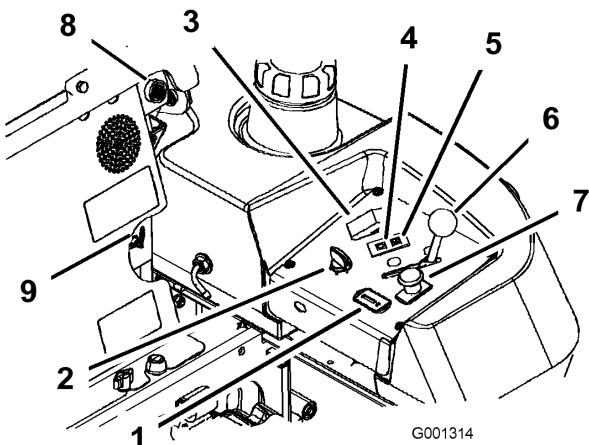

Figure 11
4. Move the PTO (power take off) switch to the off position (Figure 11).